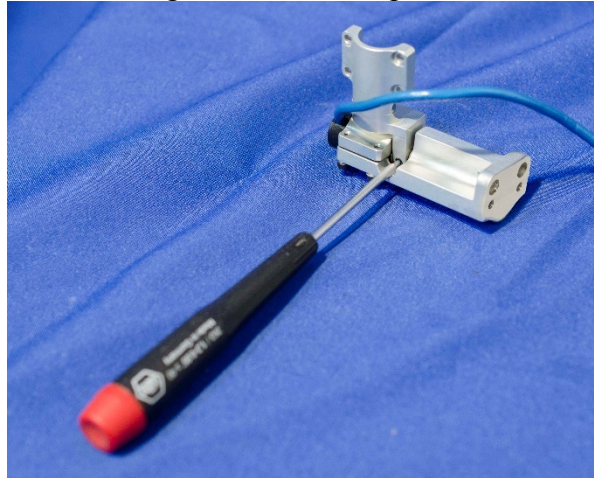

Figure 6-16. Tighten set-screw for Y-axis lower thorax IR-TRACC
- 6.2.2.10 Assure that the Y-axis rotary potentiometer will not pass through a dead band when moved through its range of motion in the thorax. Rotate the shaft until the potentiometer output voltage is approximately 0 volts so that the potentiometer is near mid-range. Once this is complete, insert and tighten the M2.5 x 0.45 x 3 SSCP against the Y-axis potentiometer shaft (Figure 6-16).